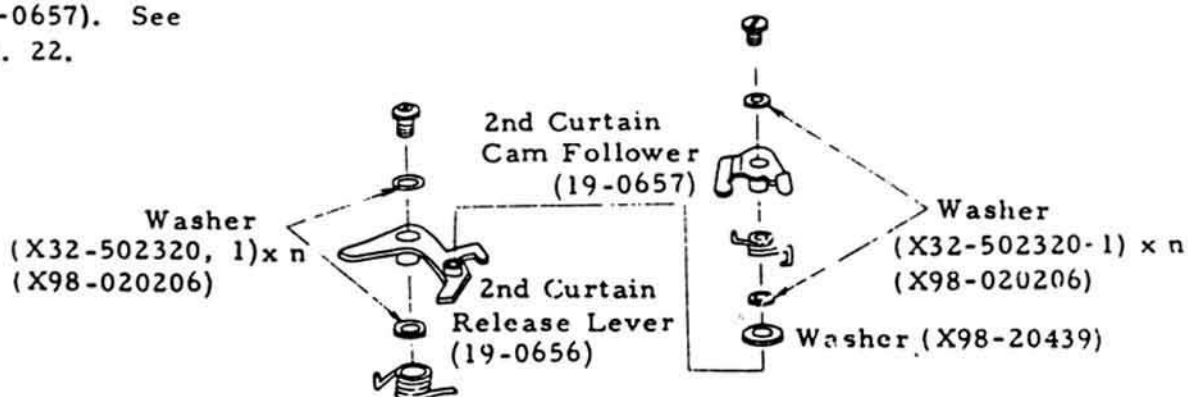

Fig. 22
1. Mounting of 2nd Curtain Release Lever (19-0656) and 2nd Curtain Cam Follower (19-0657). See Fig. 22.